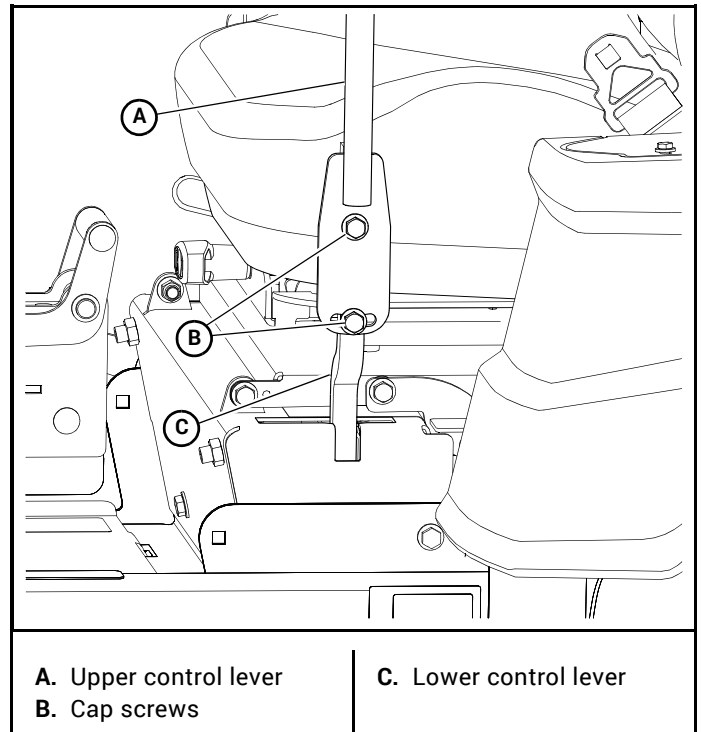

Figure 4-22
- A. To pivot the upper control levers forward or rearward, loosen the cap screws that attach the upper control lever to the lower lever. Then, pivot the upper control lever. Tighten the cap screws. Figure 4-22
- B. To lower and raise the control levers, remove the cap screws. Slide the upper control lever up or down and align the holes in it with the holes in the lower lever. Re-install the cap screws and tighten. Figure 4-22